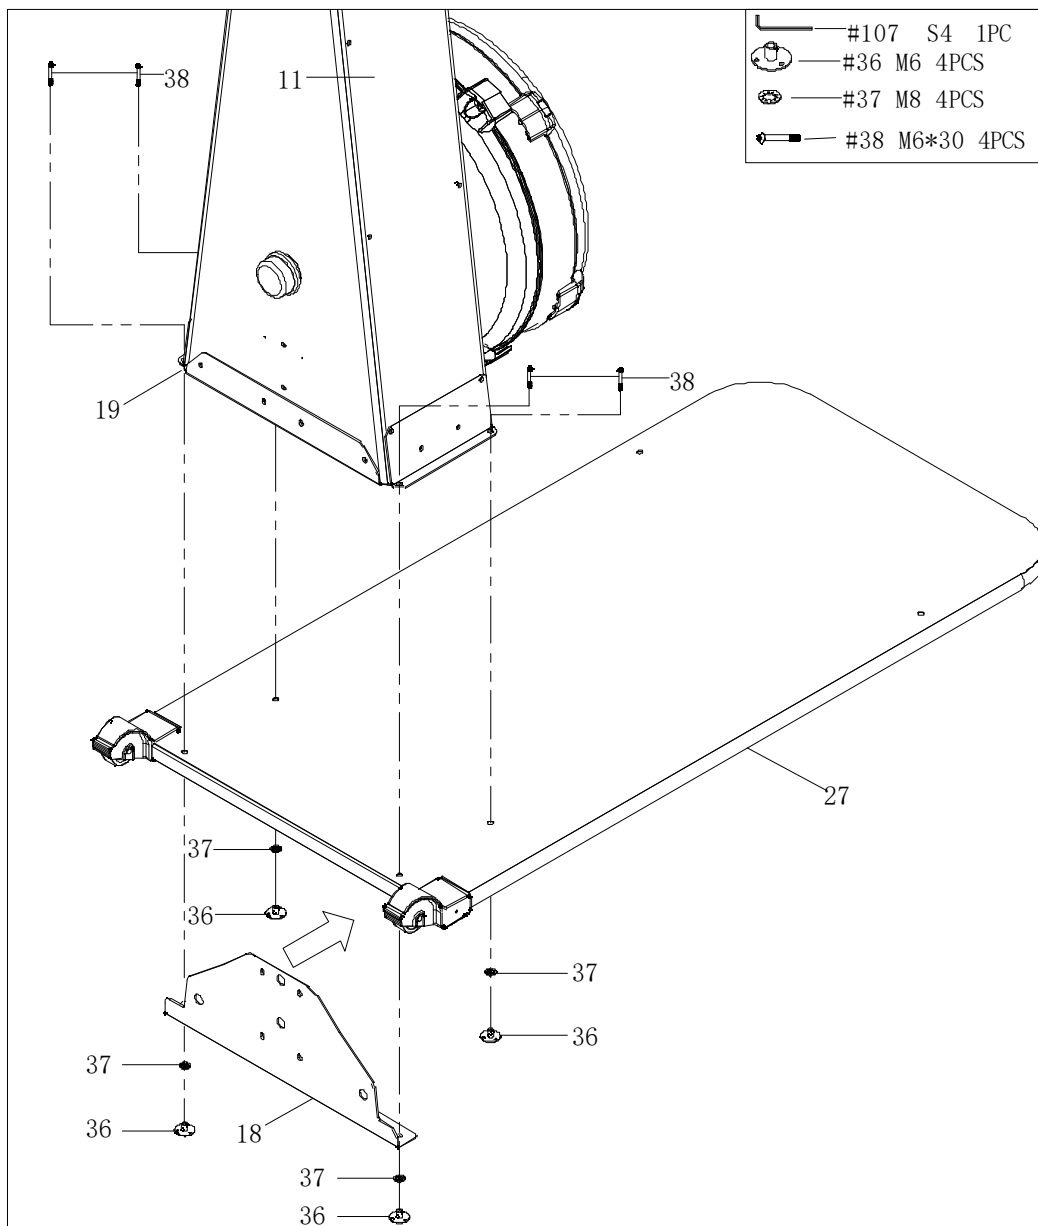

Fig. 16
4. Remove the strengthening plate (18), bottom board (27), four bolts (38), four lock washers (37), and four lock nuts (36) from the main frame (11) (Fig. 16).